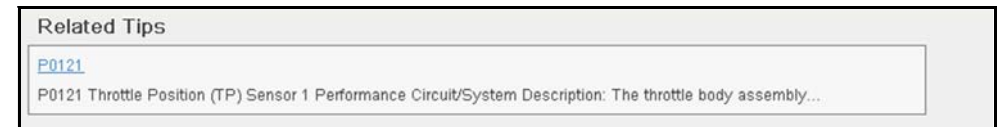

Figure 5-14
- A list of available Tips is displayed (Figure 5-14). Our selected code has only one result.